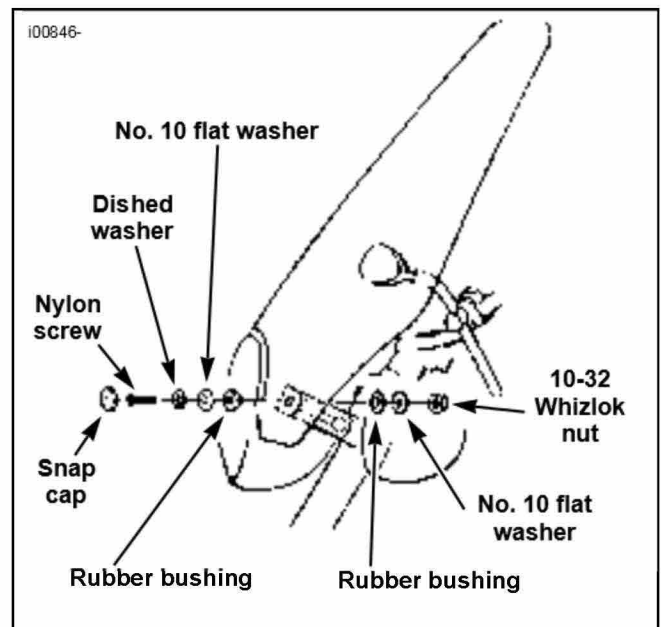

Figure 4. Mount Shield
4. See Figure 4. Slip upright into eyebolt "eyes" and tighten the nuts on the eyebolts until snug. Assemble the lower mounts in the following order (front to rear): nylon screw, dished washer, flat washer, rubber bushing, windshield, rubber bushing, flat washer, angle bracket, whizlok nut.